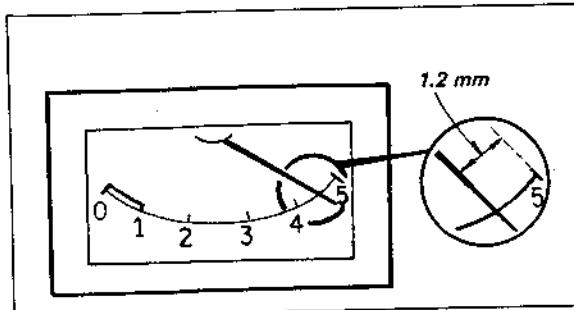
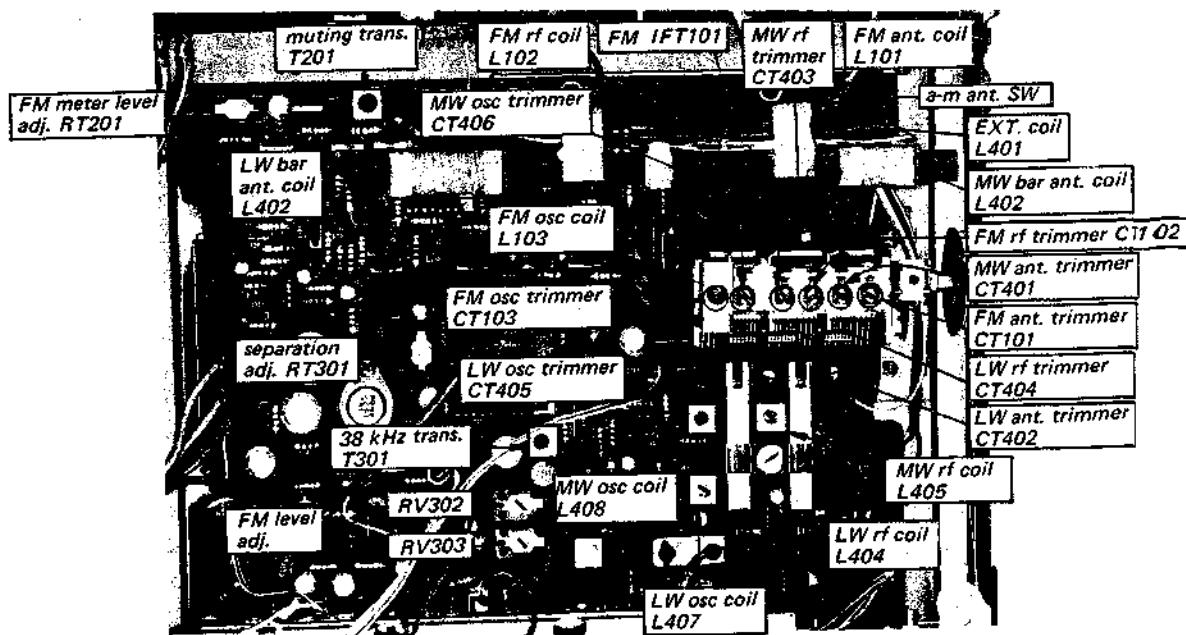

Fig. 3-3. Meter calibration
Fig. 3-4. Adjustment parts location
| 1. | 87.5 MHz | lowest position | FIXED | OSC coil L103 See Fig. 3-4. | Maximum VTVM reading |
| 2. | 108.4 MHz (108.0 MHz) | highest position | | OSC trimmer CT103 See Fig. 3-4. | |
| 1. | 87.5 MHz | lowest position | FIXED | Antenna coil L101 RF coil L102 See Fig. 3-4. | Maximum VTVM reading |
| 2. | 108.4 MHz (108.0 MHz) | highest position | | Antenna trimmer CT101 RF trimmer CT102 See Fig. 3-4. | |
2. Tune to the signal generator frequency, then adjust T201 (See Fig. 3-4) for proper muting operation.
2. Tune to the signal generator frequency, then adjust RT201 (See Fig. 3-4) for 4.8 reading on the meter as shown in Fig. 3-3.
2. Precisely tune the set to the signal generator carrier frequency, then turn the top core of switching transformer T301 (See Fig. 3-4), to obtain maximum output at left channel. Note that this adjustment has a close relationship with stereo distortion.
3. Set the MODE switch to MONO, then adjust RV302 and RV303 (See Fig. 3-4) for same but as large as possible output at both left and right channel.
7. The output-level to residual-level ratio represents the separation. Adjust separation adj. control RT301 (See Fig. 3-4) for minimum residual level. Check the right channel for separation. Usually, about an 8 to 9 dB difference in channel separation exists. Readjust RT301 for minimum difference between left-and right-channel separation. While doing this, remember that the output level also changes according to the setting of RT301.
| 1. | 550 kHz | 550 kHz | FIXED | OSC coil L408 See Fig. 3-4. | Maximum VTVM reading |
| 2. | 1,600 kHz | 1,600 kHz | | OSC trimmer CT406 See Fig. 3-4 | |
| 1. | 600 kHz | tune to the SG signal | FIXED | Position of antenna coil L402 RF coil L405 See Fig. 3-4. | Maximum VTVM reading |
| 2. | 1,400 kHz | | | Antenna trimmer CT401 RF trimmer CT403 See Fig. 3-4. | |